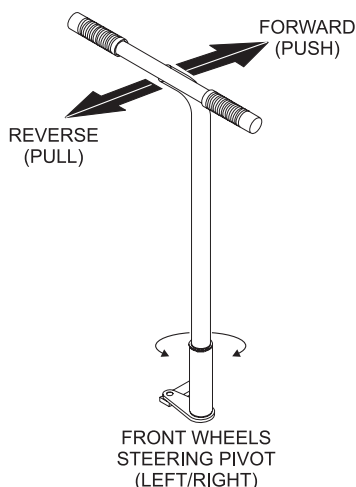

Figure 3. T-Handle (Directional Control)
1. Using the T-handle (Figure 3), place the GloBug on a firm level surface so that it will not slide or turn over.